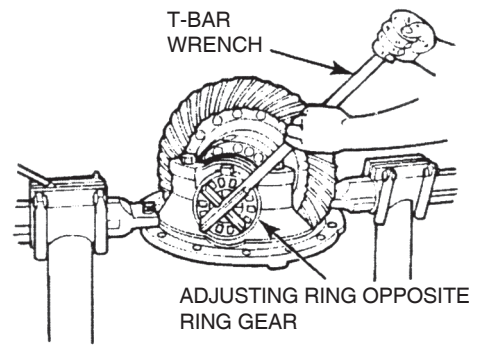

Figure 5.36
2. Use a T-bar wrench to loosen the adjusting ring that is opposite the ring gear. A small amount of clearance will show on the dial indicator. Figure 5.36.
3. Use a T-bar wrench to tighten each bearing adjusting ring one notch. Figure 5.36.